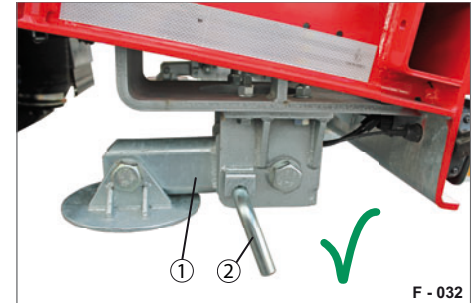

Fig. 65 Folding supports folded up/secured
- ▶ Turn and pull out the socket pin (Fig. 65/2).
- ▶ Fold up the support leg with levelling foot (Fig. 65/1).
- ▶ Stick the socket pin (Fig. 65/2) into the bore hole and turn it down.